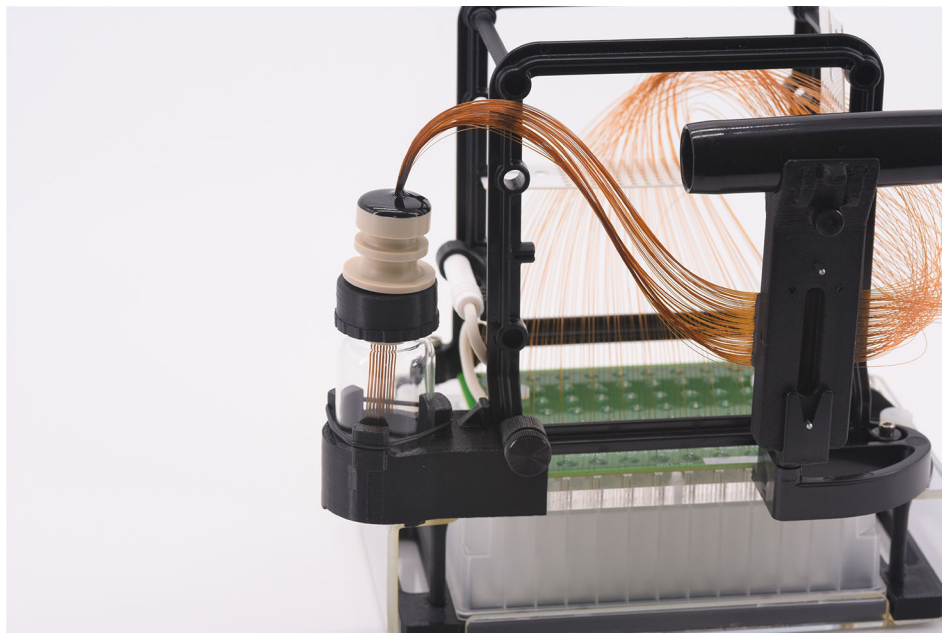

Figure 115 Array docking station with array installed
To see a full image of the array with the array spindle storage device installed, refer to **Figure 115**.
- 8 Remove the capillary array outlet spindle from the black storage plug and place it into the array spindle storage device as shown in **Figure 115**.